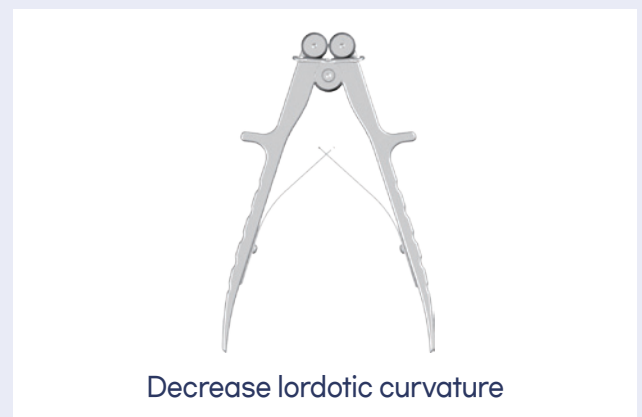

Figure 3
- Using the plate holder, position the appropriate plate on the vertebral column to confirm its suitability (Figure 3). When the plate is properly sized and positioned, the superior screw holes should align with the inferior of the superior vertebral body.